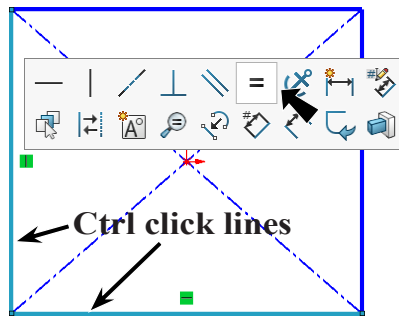

Fig. 3
Step 6. **Ctrl click two adjacent sides of the rectangle** and click **Make Equal** on the context toolbar, **Fig. 3**.